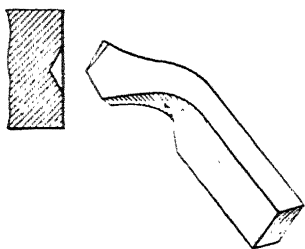

FIG. 140.—Spotting tool.
**150. Drilling in a Lathe—Spotting the Center.**—Suppose it is required to finish a hole, say 1 in. in diameter, in a piece of solid metal. The first operation usually, after truing the work in the chuck, is to face the piece, especially if it is cast iron, and the next operation is spotting a center for the drill, using the bent spotting tool (see Fig. 140).